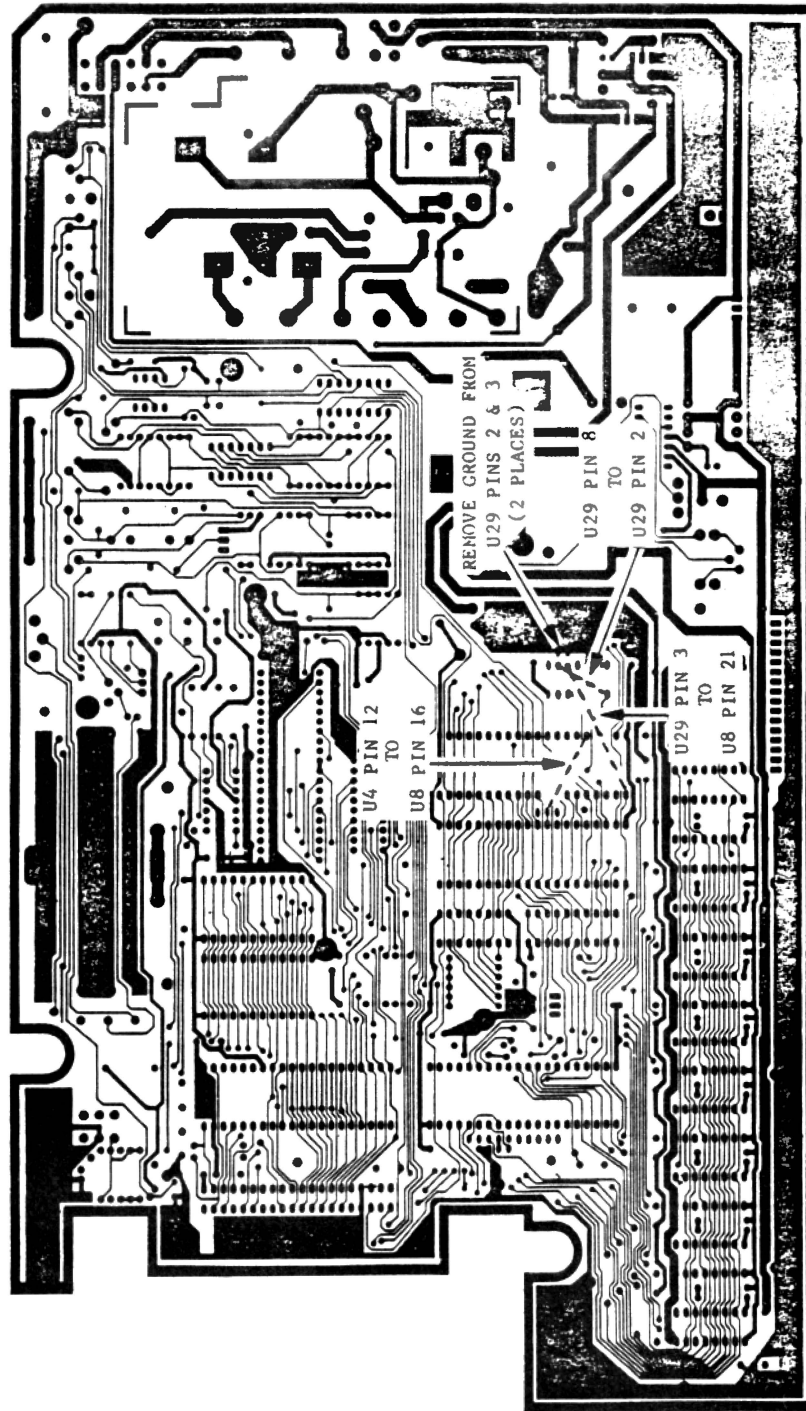

FIGURE 5
- 15) Make the following cuts on the CIRCUIT side of the PCB. Refer to Figure 5, and cut EXACTLY where indicated.
- 17) Using wire wrap wire, install the following jumpers on the FOIL side of the PCB. See Figure 5 for location.